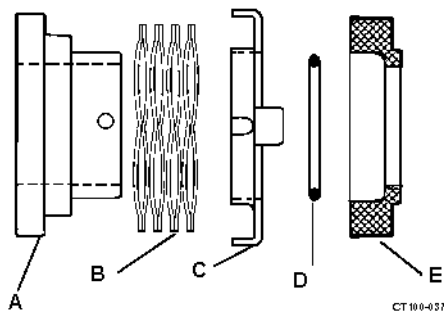

Figure 26 - Carbon Seal
4. Install the backplate on the adapter. Check that the seal cup slot is engaged with the pin on the drive collar. See Figure 26.